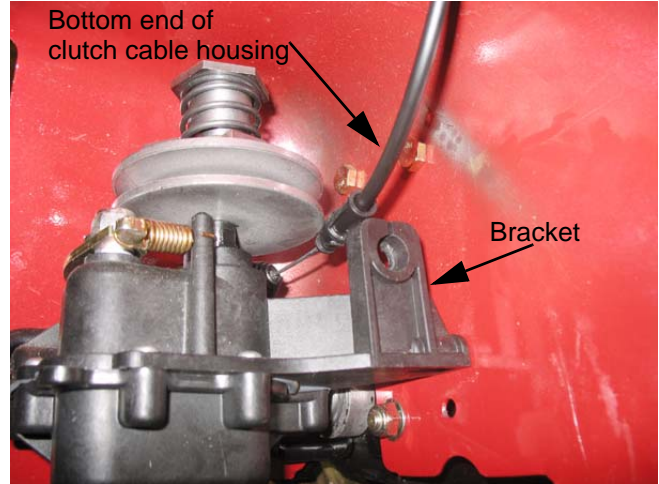

Figure 5.17
3. Squeeze the barbs on the cable housing to release it from the bracket on the transmission. A 9mm open-end wrench or a Ford fuel line removal tool may be handy for this task. See Figure 5.17.